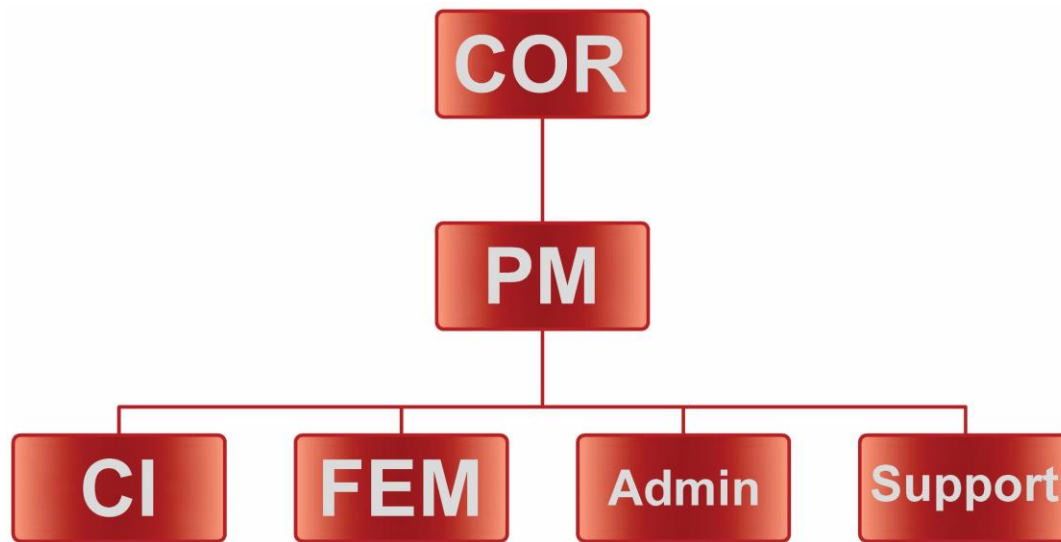
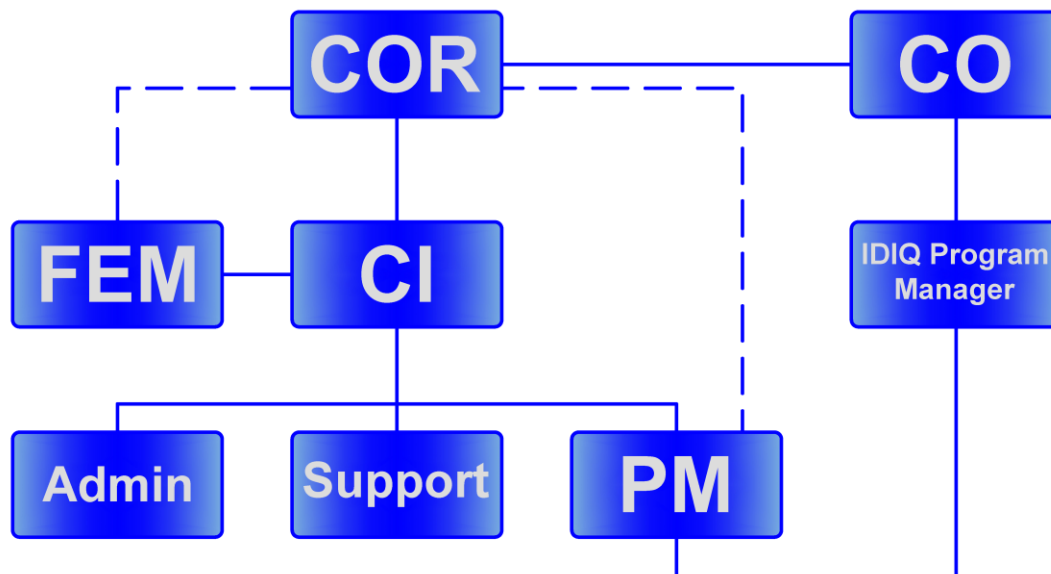

Figure 1 - How CM Contractors Often See Lines of Communication
Figure 2 - How USIBWC Sees Lines of Communication
- 2.3.A. Many proposals we receive try to route all project communications through your PM (see Figure 1). This cannot work on a day-to-day basis. USIBWC's primary point of communication will be the construction inspector (CI). In cases where only the field environmental monitor (FEM) is onsite, they become the main point of contact. See Figure 2 for an illustration of how USIBWC views day-to-day communications with the CM Contractor.